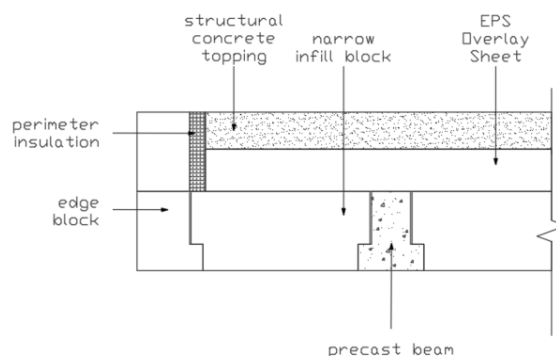

Figure 6 - 150mm perimeter strip
- 150mm high – this is placed against the perimeter wall and secured in place by wedging the overlay sheet against it. Shown in *Figure 6*.